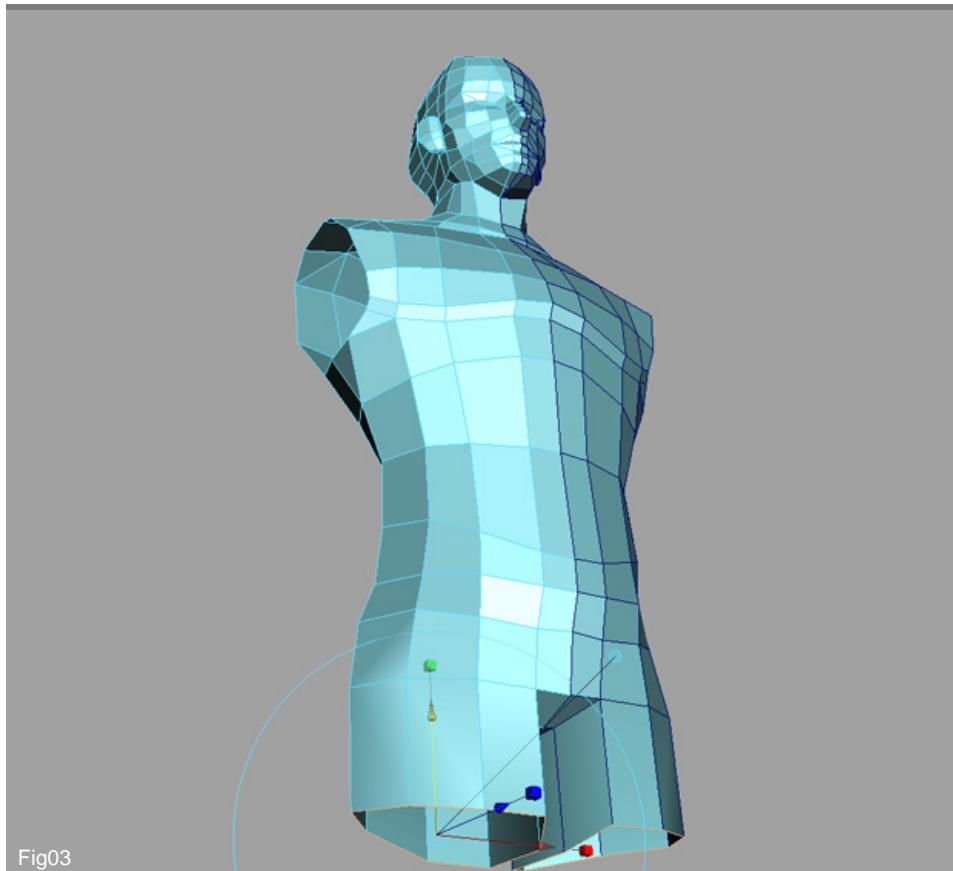

Fig03
3. Extrude the edge downward using "Extrude edge" tool and rearrange the vertices to have a nice shape for the legs (Fig03).